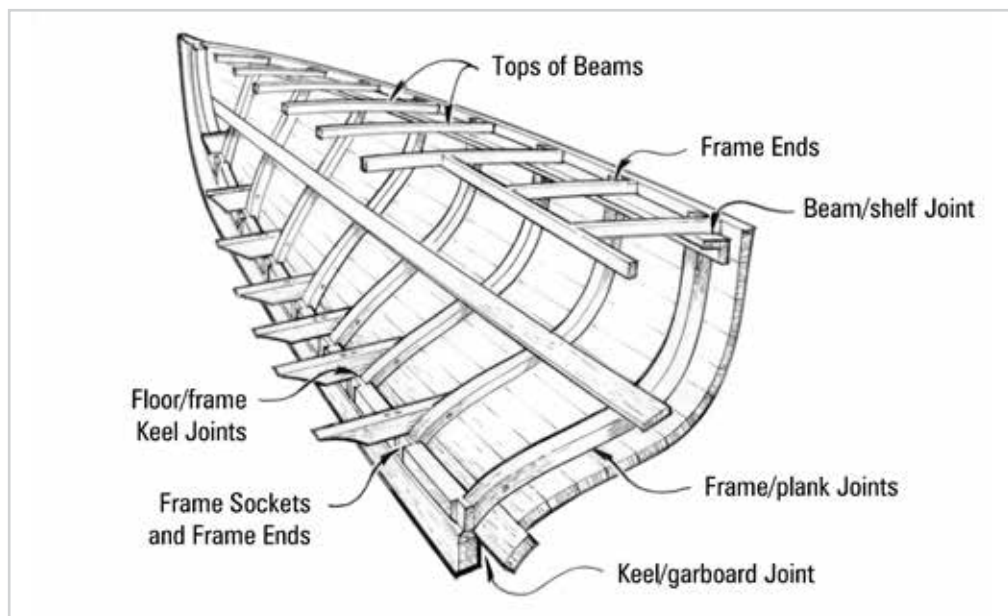

Figure 2-4 Look for dry rot at joints and areas of standing water and poor air circulation
4. Inspect each structural member and its fasteners to see if they can still carry their intended load. Use an ice pick or other sharp tool to probe for areas of dry rot. Look for rot in areas of poor air circulation, where parts contact each other and around fasteners. If the damage is from an impact or fatigue, look for cracked frames or loose fasteners away from the obviously damaged area (Figure 2-4).